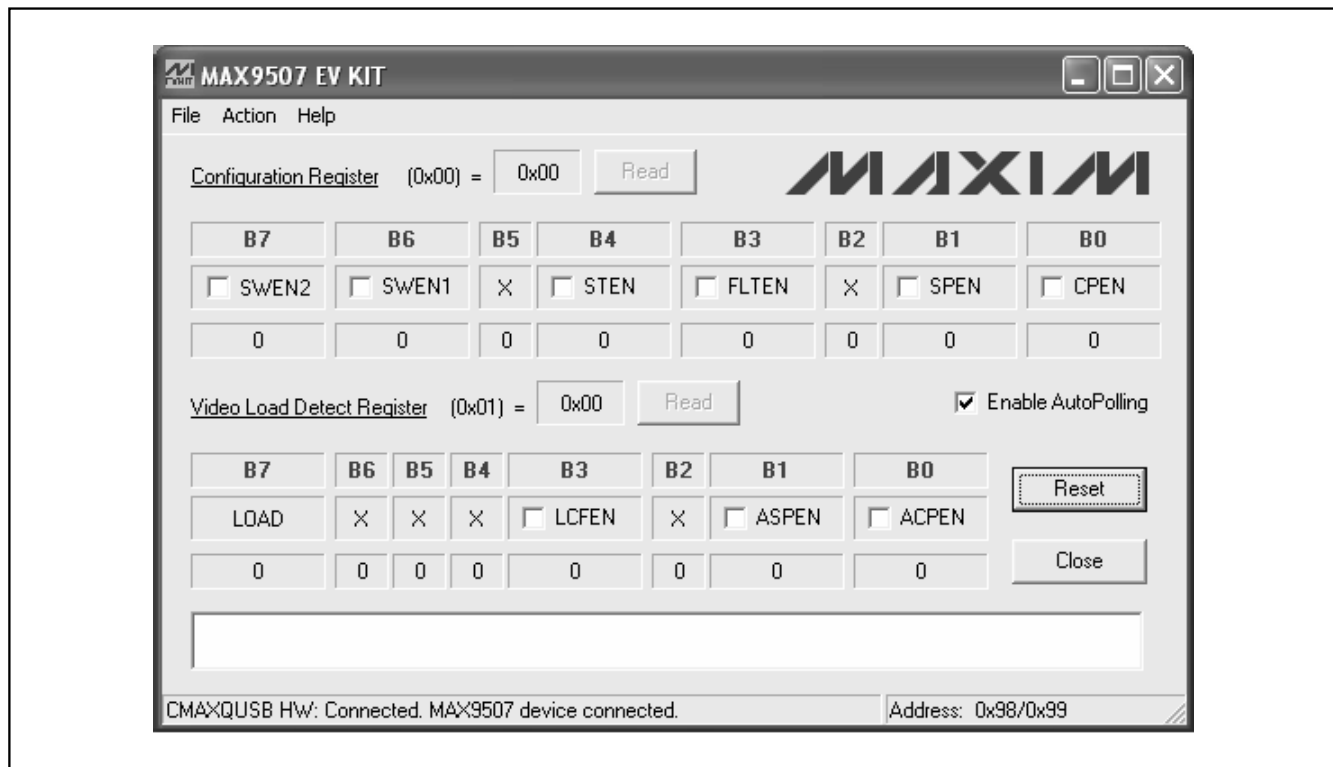

Figure 1. MAX9507 EV Kit Software Main Window
- 12) Normal device operation is verified when **CMAXQUSB HW: Connected. MAX9507 device connected** is displayed at the bottom-left side of the MAX9507 EV kit window, as shown in Figure 1.
In the program's main window (Figure 1), a mouse is used to toggle the checkboxes that control the various features of the MAX9507. The MAX9507 EV kit software permits the control of software-configurable features: switches, sync-tip clamp, filter, signal path, charge pump, load change flag enable, automatic signal path enable, and automatic charge pump enable. Changes to the controls result in write operations that update the configuration and video load detect registers of the MAX9507. All changes to the 8-bit command registers are reflected on screen under the **B7-B0** labels; the register contents are also read and displayed in hexadecimal format.
There are two methods for communicating with the MAX9507: through the normal user-interface panel (Figure 1) or through the SMBus commands available by selecting the **Interface Diagnostic Window** item from the **Action** pulldown menu. The **Maxim Command Module Interface** window pops up and includes a **2-wire interface** tab that allows for execution of the **SMBusSendByte()** and **SMBusQuick()** commands.